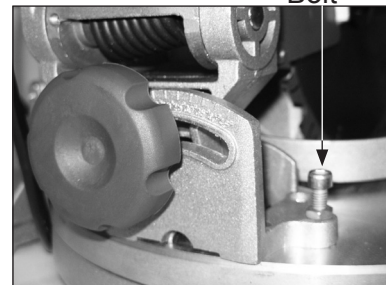

Fig. 5
6. Using a 10mm wrench, loosen the Lock Nut (securing the positive bevel stop adjustment bolt in place). The 0° bevel adjustment bolt (Fig. 5) is located on the rear right side of the Miter Table.